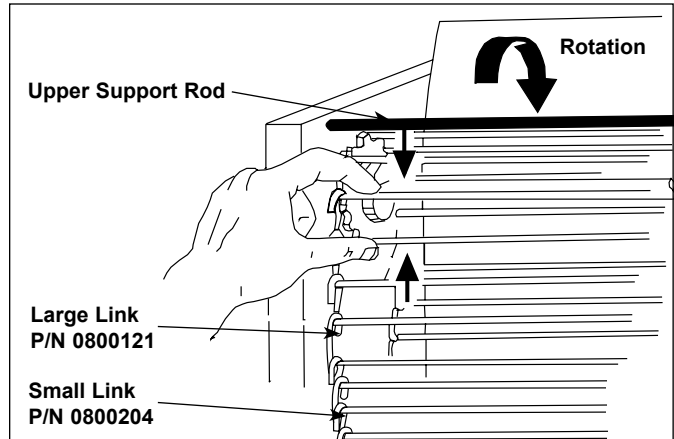

Figure 16. Removing Conveyor Belt
After a period of time, the conveyor links will wear and the conveyor belt will stretch, eventually causing buns to stick. This is easily remedied by removing one or more conveyor links from each side of the belt. There are four 1/2" small links on each side of the conveyor belt. The rest of the links are large, 3/4" long (Figure 16).
2. Disconnect the conveyor belt by squeezing any two links together and unhooking both ends of one link (Figure 16).
**NOTE:** If the belt is too short to be reassembled, remove an additional 1/2" small link and install a 3/4" large link. This will shorten the belt 1/4" overall. See Figure 16 for links part numbers.
2. Place replacement conveyor belt on top sprockets. Check for correct positioning (Figure 16).
**NOTE:** Install conveyor belt so that the ends of the hooks are facing down (Figure 16).